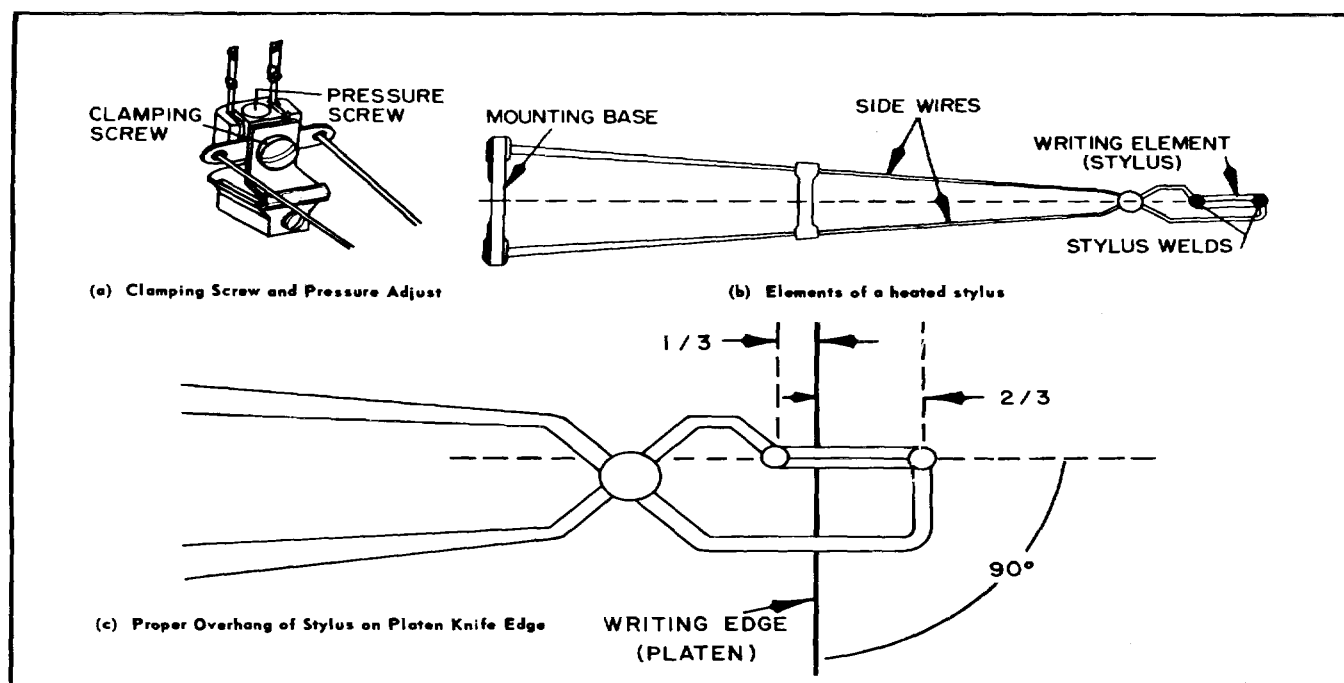

Figure 5-10. Heated Stylus Part No. 398
- b. Loosen the setscrew at the bottom of the stylus adapter slightly (Figure 5-10) with a spline wrench.
c. In remounting the replacement magnet, adjust the position of the magnet using the screw at the rear of the mounting plate (Reference 33, Figure 6, IPB Section) to obtain the correct stylus overhang. See Figure 5-10(c).